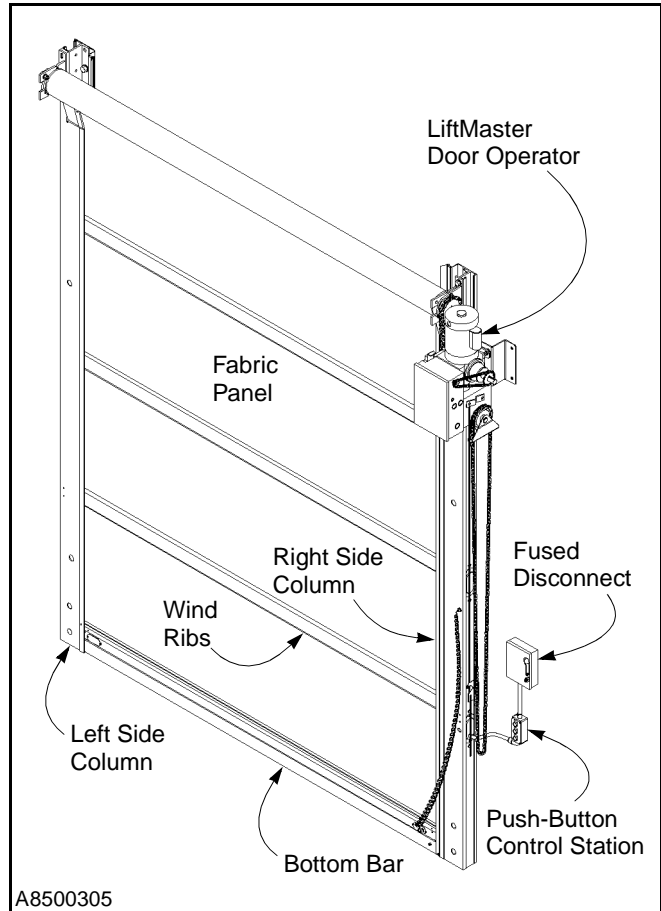

Figure 1
5. The fusible disconnect and the push-button control station should be installed prior to the start of the door installation. (See Figure 1 for layout.)
Figure 1 shows the location of major components of your Bantam dock door. This illustration should be used as reference only and should not be used as part of the installation instructions.